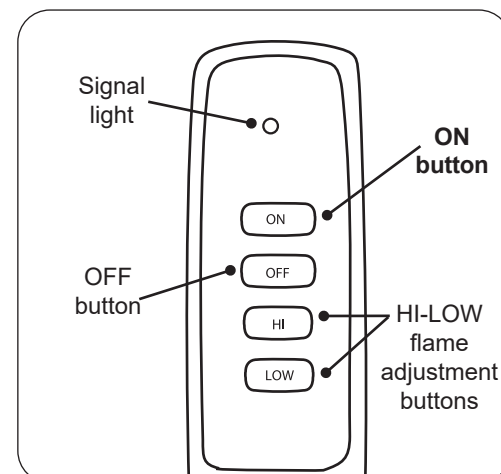

Fig. 33-3 Remote transmitter detail
3. Locate the remote transmitter and press the **ON** button (see Fig. 33-3). The system will beep and the ignition sequence will begin.